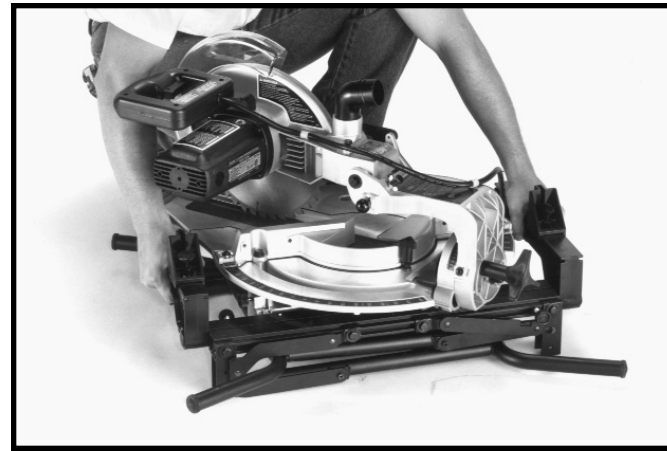

Fig. 60
7. When moving the saw from place to place, lift saw by the two extension tables (F) as shown in Fig. 60.